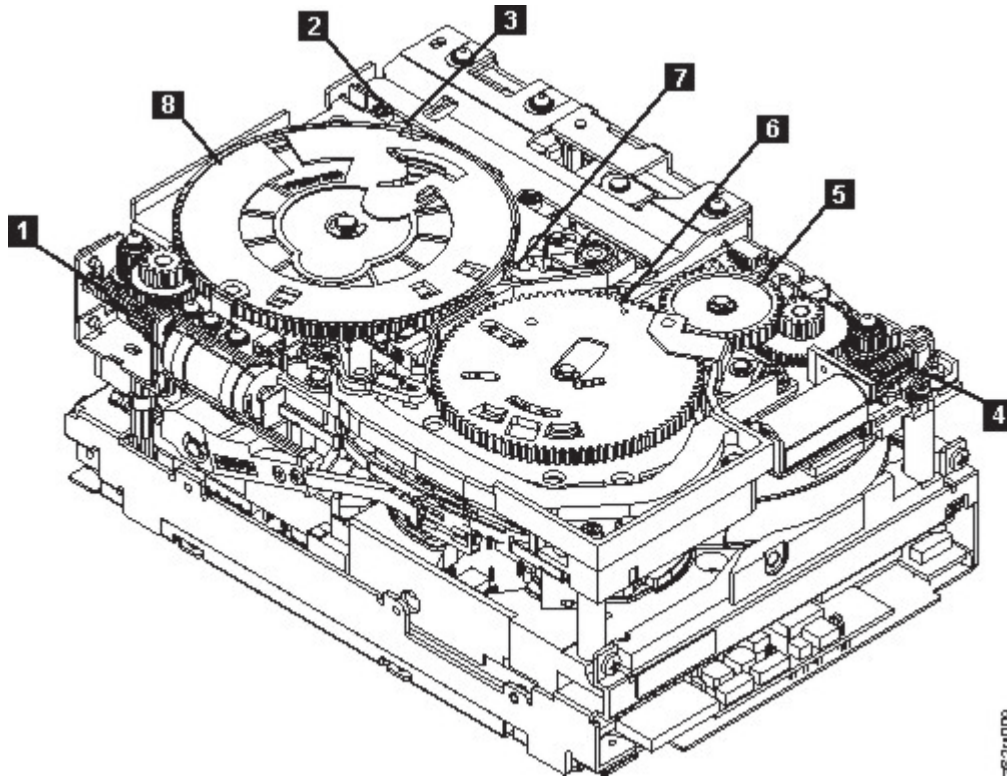
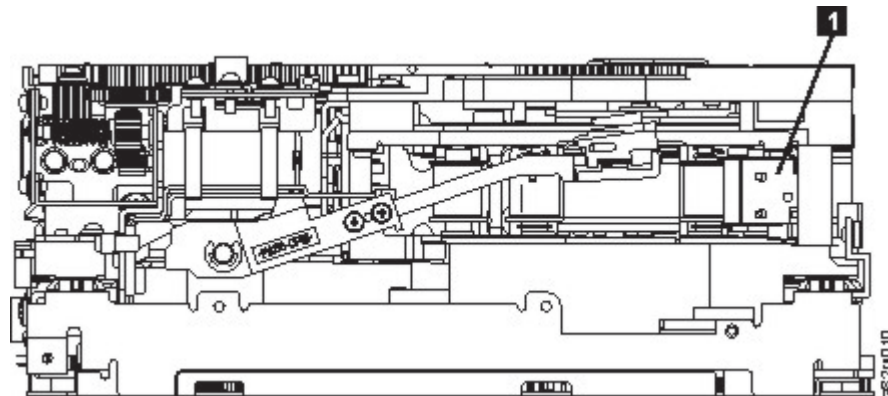

Figure 116. Drive with cover removed to reveal gear train.
Figure 117. Leader Block Assembly (LBA)
6. Locate the threader motor worm gear (**4** in Figure 116) on the rear of the drive. Use your finger to rotate the threader motor worm gear and slowly rotate the threader mechanism gear (**6** in Figure 116) clockwise. This action rotates the threader motor worm gear (**4** in Figure 116) clockwise, drawing the LBA into the cartridge.
7. As the tape leader block assembly (LBA) is secured in the cartridge, you hear the LBA retention spring clips click into place. If you do not hear the click, continue rolling until the threader motor worm gear (**4** in Figure 116) stops. The LBA is in the correct position.
- a. Loader mechanism gear (**6** in Figure 116) nearest the front of the drive that actuates the cartridge loader mechanism.
- b. Position of the rotate stub (**3** in Figure 116).
- c. Front loader motor worm gear (**1** in Figure 116). Rotating this gear allows the loader mechanism gear (**8** in Figure 116) to turn.
9. Rotate the loader motor worm gear (**1** in Figure 116 on page 184) to turn the threader mechanism gear (**6** in Figure 116 on page 184) counterclockwise. Continue turning until the rotator stub (**3** in Figure 116 on page 184) loses contact with the lever (**7** in Figure 116 on page 184). This action releases the LBA leader pin.
10. Rotate the threader motor worm gear (**4** in Figure 116 on page 184) to turn the threader mechanism gear (**6** in Figure 116 on page 184) counterclockwise. This action moves the LBA out of the cartridge and past the read/write head. Stop this rotation when the LBA is near the tape guide roller nearest the rear of the drive that is shown as **1** Figure 117.
11. Continue rotating the loader motor worm gear (**1** in Figure 116 on page 184) until the rotator stub (**3** in Figure 116 on page 184) is positioned as shown. Notice that the rotator stub (**3** in Figure 116 on page 184) is nearly aligned with the cartridge loader tray guide bearing (**2** in Figure 116 on page 184).